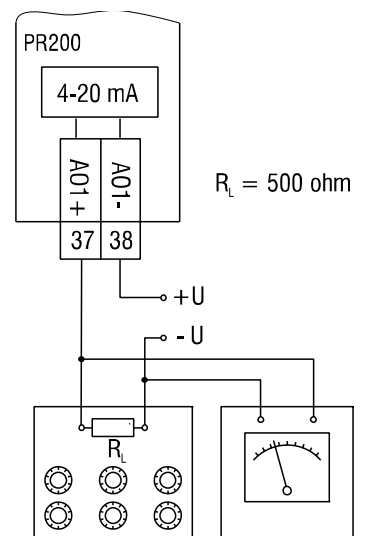

Fig. F.4
1. Connect the reference resistance box of accuracy class at least 0.05 to the Output AO1 (Fig. F.4).